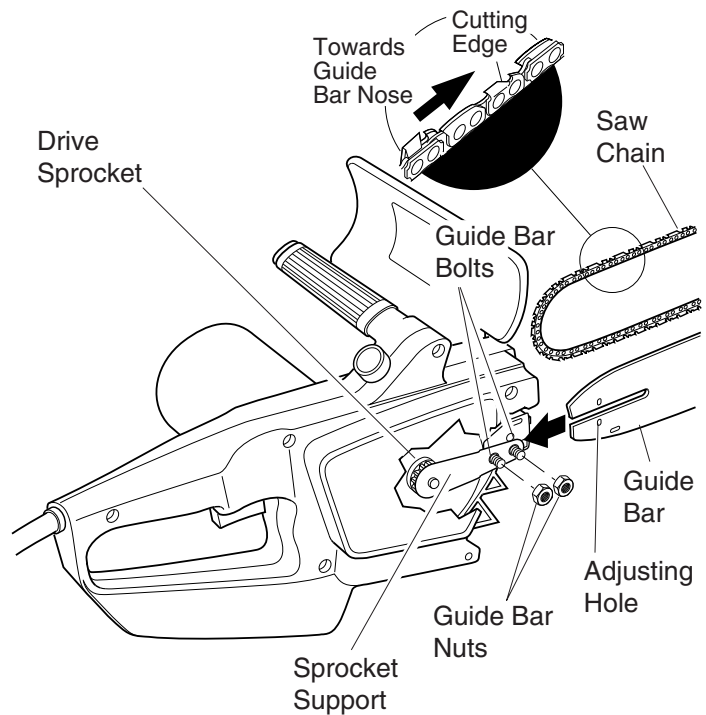

Figure 3 - Assembling Guide Bar, Chain, and Hand Guard
2. Remove guide bar nuts from guide bar bolts (see Figure 3).
6. Place chain around drive sprocket, then along top groove of guide bar and around guide bar nose. *Note:* Make sure cutting edges of chain are facing the right direction. Position chain so cutting edges on top of guide bar face guide bar nose (see Figure 3).
1. Before adjusting chain, make sure guide bar nuts are only finger tight (see Figure 3, page 6). Also make sure adjusting block is in oval adjusting hole on guide bar (see Figure 3 and 4, page 6).